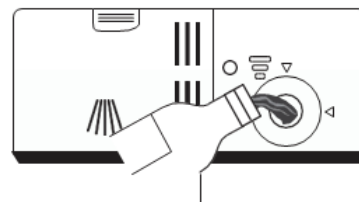

Figure 10- Filling the Rinse-aid reservoir.
**Step 2** Carefully pour the dishwasher rinse-aid into the reservoir, whilst being careful to avoid it overflowing. Refer to Figure 10.